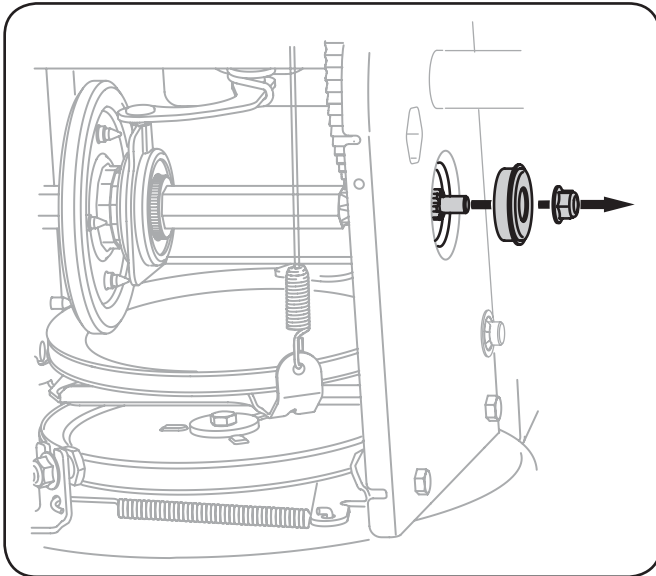

Figure 7-9
5. Carefully remove the hex nut which secures the hex shaft to the snow thrower frame and lightly tap the shaft's end to dislodge the ball bearing from the right side of the frame. See Fig. 7-9.